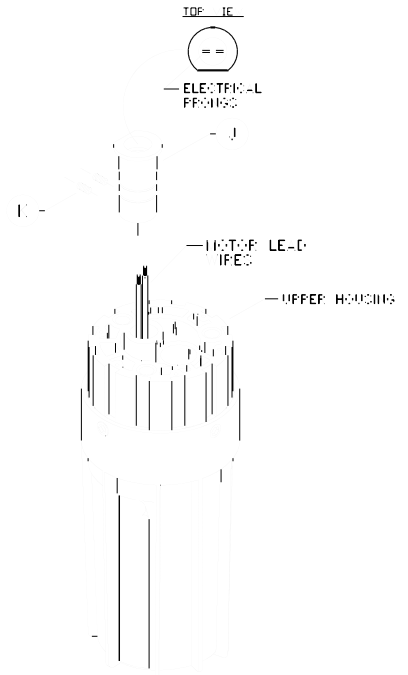

FIGURE 14
10) Connect the Receptacle (Cable Adapter) (Part J) (Fig. 14, page 13).